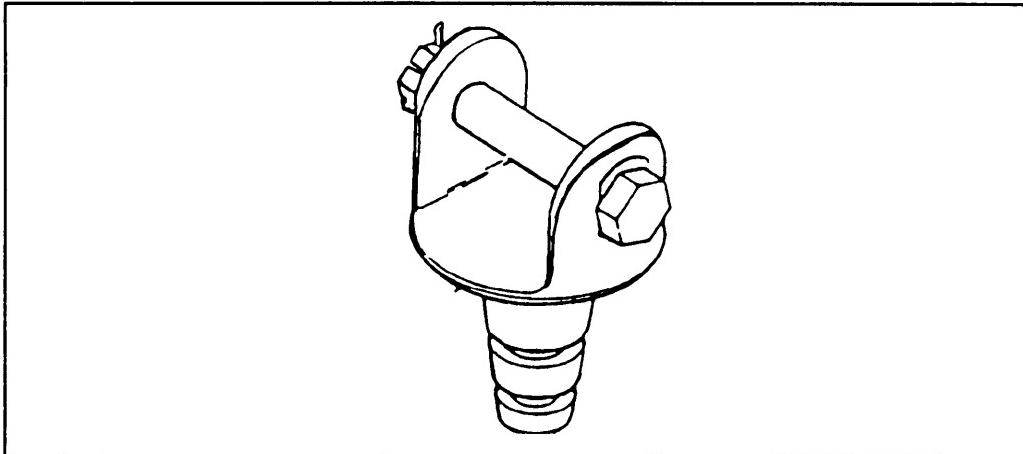

Figure 1-9. Pindle.
b. **Pintle.** The gun is connected to the tripod mount, M3, by a pintle (Figure 1-9, page 1-14). This pintle is semipermanently attached to the machine gun by a pintle bolt through the front mounting hole in the receiver. The tapered stem of the pintle seats in the tripod head. It is held secure by a pintle lock and spring. To release the pintle, raise the pintle lock, releasing the cam. The weight of the pintle and traversing and elevating mechanism are considered as part of the total weight of the tripod mount, M3 (44 pounds).